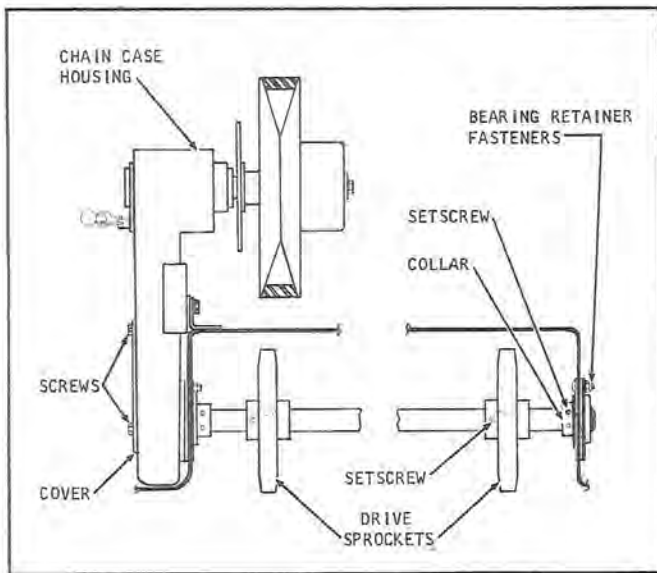

Figure 13
4. Remove the three screws, lockwashers and nuts that hold the bearing retainer to the right side of the sled (figure 13).
8. Remove the setscrews to loosen the collars in both ends of the drive shaft (figure 13).